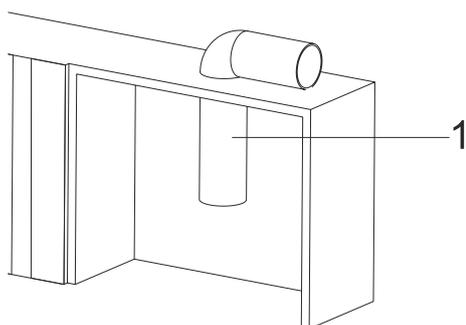

Fig. 11
2. ➤ Bring the air exhaust pipe to the cabin in which the appliance will be mounted on (Fig. 11).